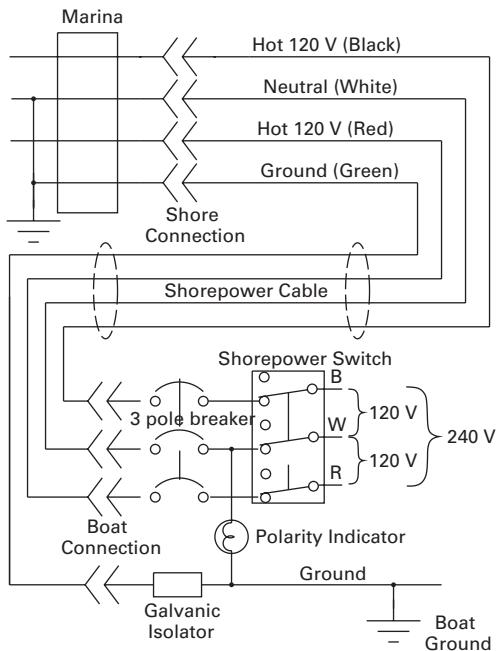

FIGURE 9-24: Shorepower Circuit 240 V
The circuit diagram in figure 9-24 is for a shorepower hookup, and it shows the essential parts of the connection.
- A 120 V supply circuit is similar to the 240 V circuit shown in figure 9-24 but without the red conductor.